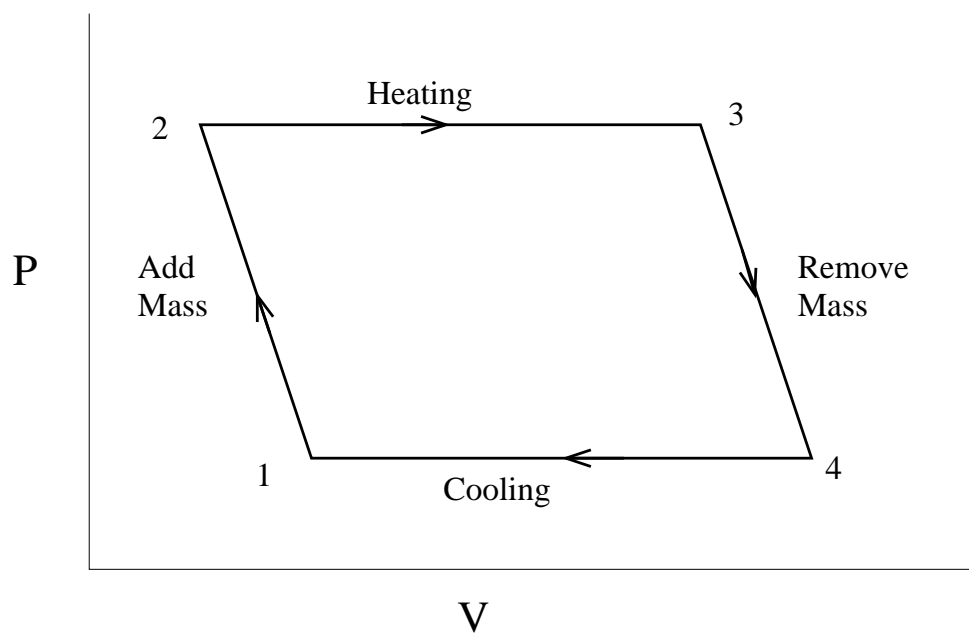
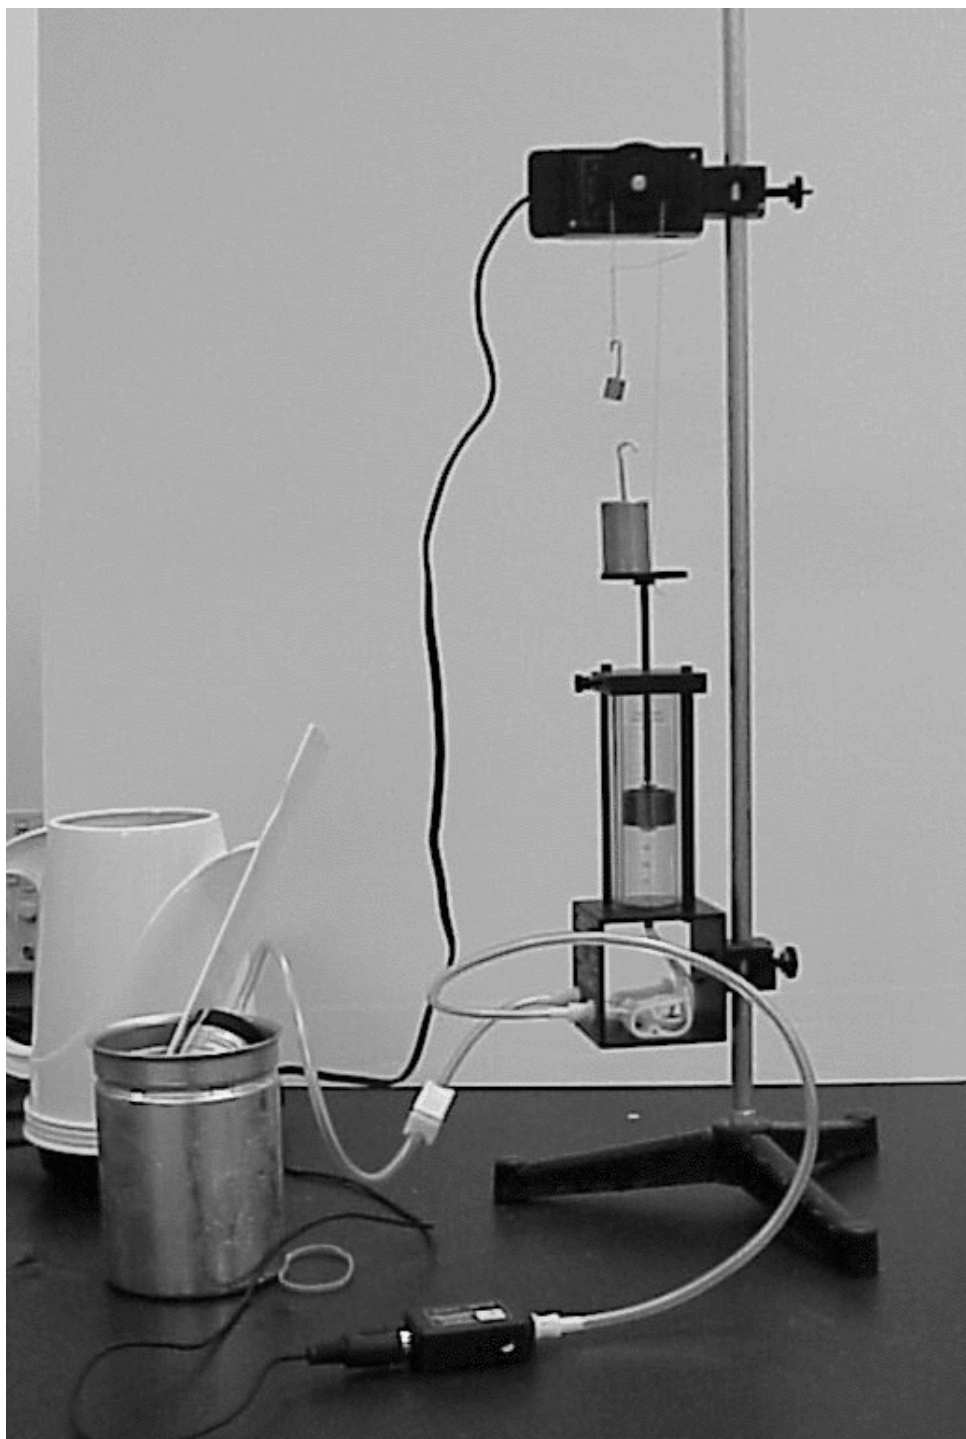

Figure 2: The "Pasco" cycle on the $P - V$ plane.
Figure 3: Heat engine apparatus.
Sometimes, actual physical systems correspond closely to loops which can be calculated. Some examples are the Otto cycle, the Diesel cycle and the Carnot cycle. We will consider a simpler cycle, illustrated in Figure 2. Let's call it the “Pasco” cycle.
The experimental arrangement is shown in Figure 3. Initially the system starts at point 1 in Figure 2, with the chamber in cold water. Then an additional “load” mass is gradually ¹ placed on top of the piston. This causes a decrease in the volume, V , and
1. Set up the rotary motion sensor as shown in Figure 3. Make sure the pulley moves clockwise when the piston goes up.